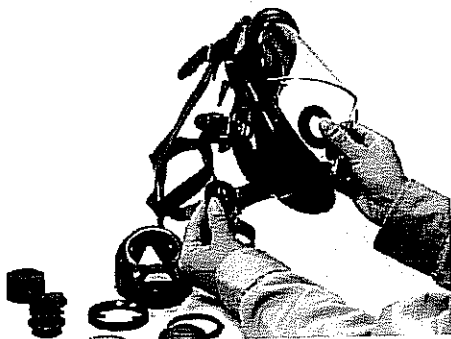

FIGURE 19
- 6) For both the 7600 and 5400 Series, remove the inhalation connectors and their grommets from the facepiece. Inspect the grommets for damage, replace if necessary. (See Figure 19.)